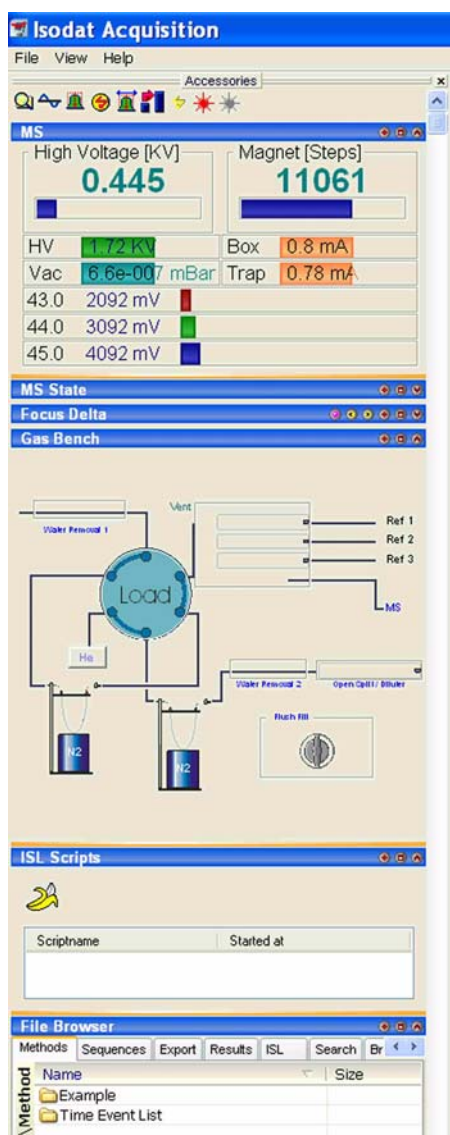

Figure 3-12. Components of Accessories bar
2. Click on the button of the active configuration tab to have the GasBench II + A200S configuration (Figure 3-12) available. Isodat will automatically refresh or switch to the GasBench II + A200S configuration.
The Accessories bar displays the selected configuration together with its configured features (as previously defined in the Configurator). See Figure 3-12.